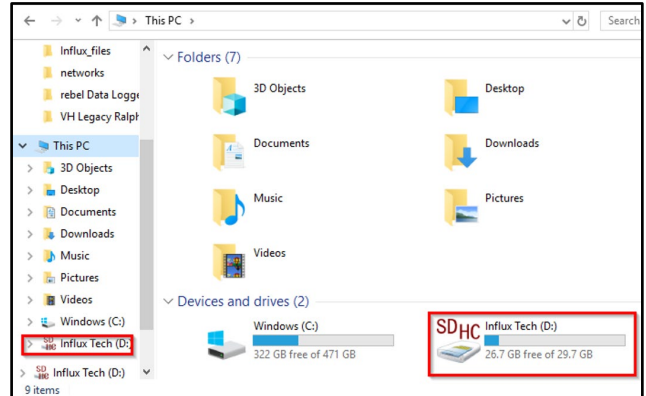

Figure 4
3. Use File Explorer to open the “Influx Tech SD Card” (refer to Figure 4).